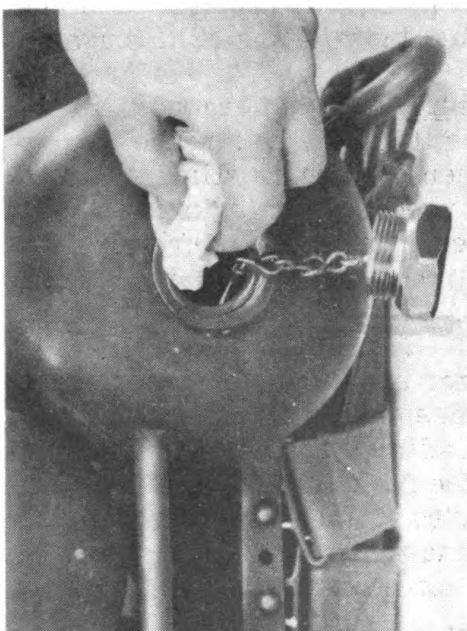

Fig 29. Wiping plug seat.
e. Wipe the fuel-tank plug seats and the plug threads with a clean, dry cloth. (Fig 29) If plug has a tendency to freeze to seat, lubricate (Par 49 b) before screwing in the filling and safety-head plug assemblies. Tighten with wrench.